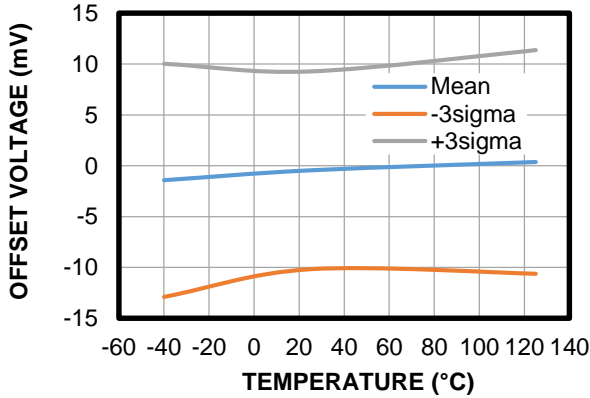

**Figure 1: Total Resistance**
- The resistance is defined as the total resistance measured from a point of the lead next to the solder joint, assuming that the two  $I_P+$  pins (and  $I_P-$  pins) have the same potential (see Figure 1). This definition corresponds to the effect resistance used to estimate the joule heating, calculated with  $R \times I_P^2$ .